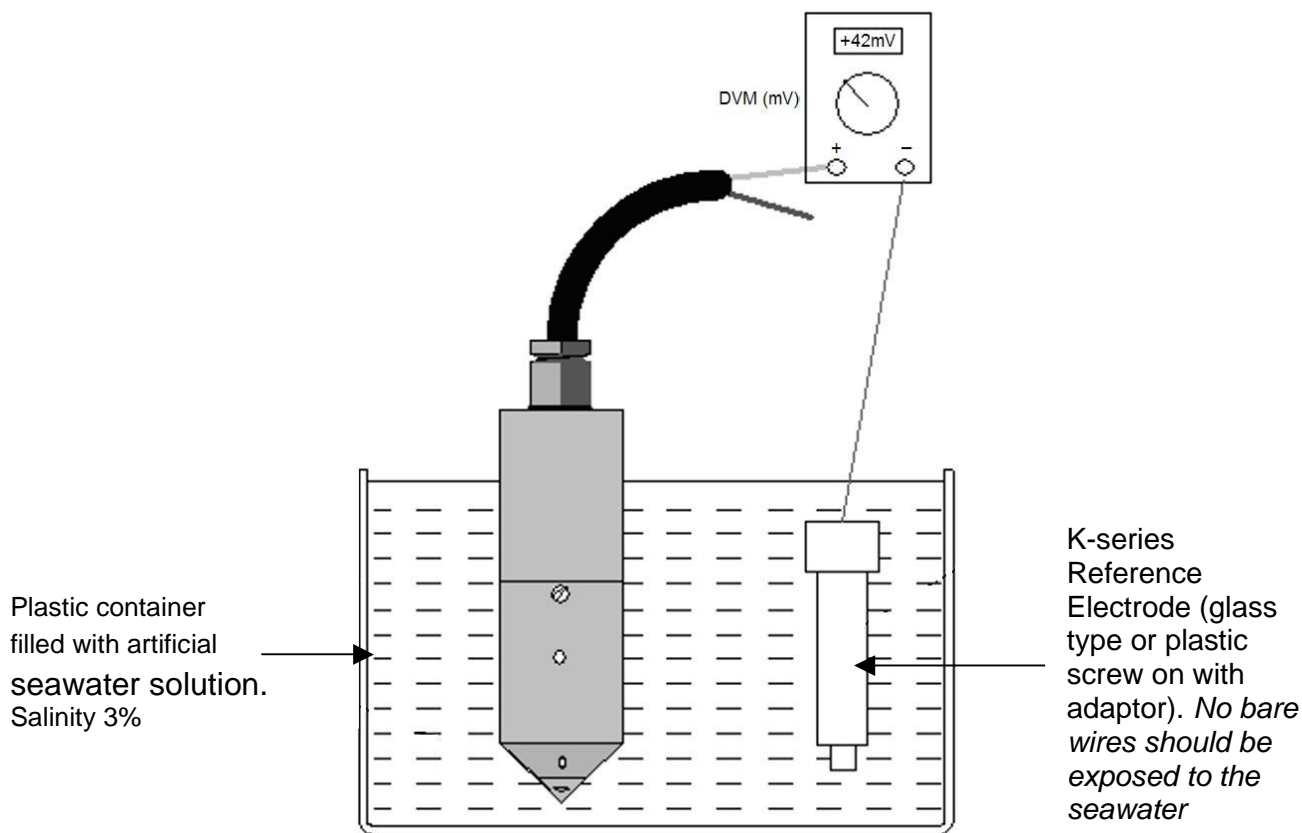

FIG 1
- 1.2 Connect the white lead from the UCP to the Positive terminal of the DVM (see Fig 1 above).